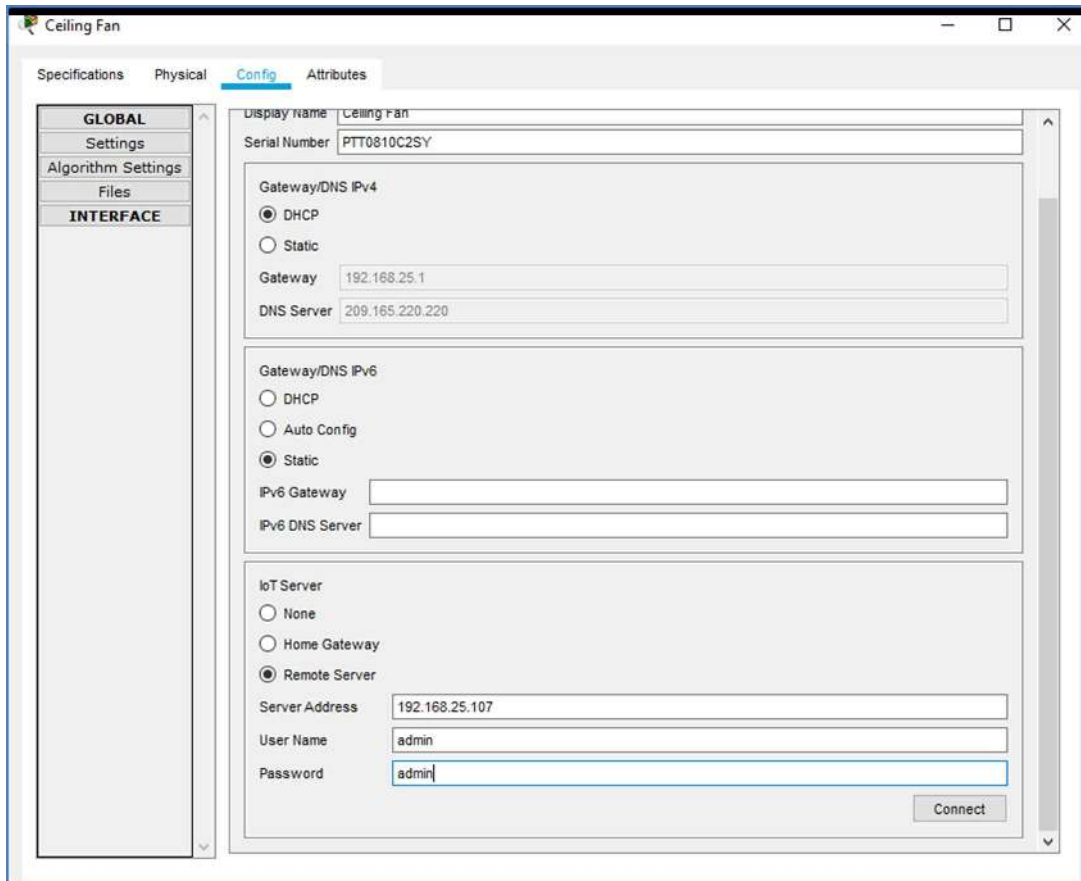

Figure 9.9: Registering the Ceiling Fan with the Remote Server
- Click **Connect** or **Refresh** to initiate registration (Figure 9.9).